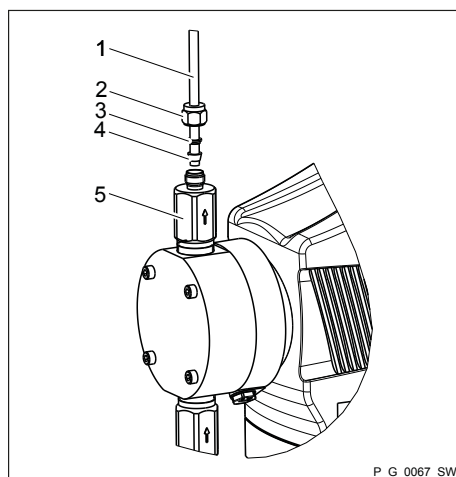

Fig. 7: SS designs with pipe
1. ➤ Push the union nut (2) and clamp rings (3, 4) over the pipe (1) with approx. 10 mm overhang - see Fig. 7.